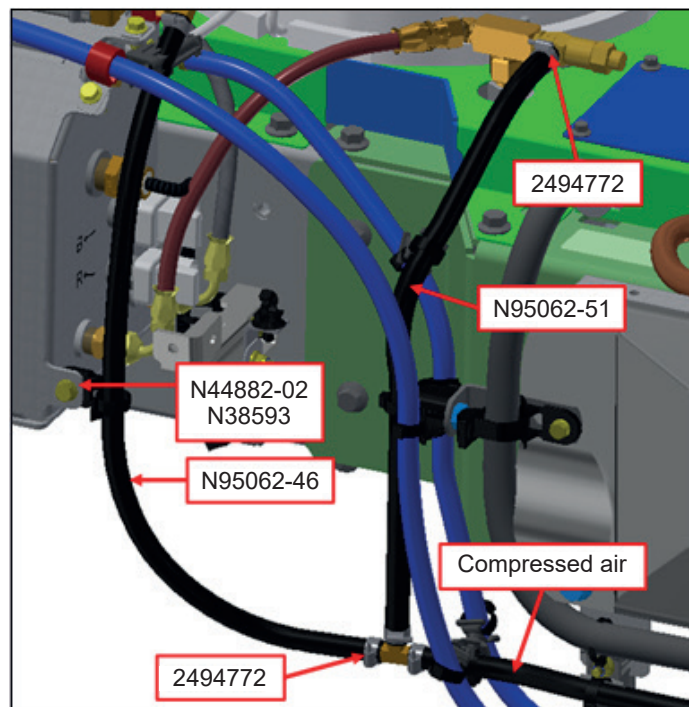

Figure 8 - Installation of Relief Valve Hose
- 1.16. The routing of left side hose going to the T-fitting must be modified, use supplied hose N95062-46 and cut to size accordingly (see figure 8).
- 1.18. Secure all the hose connections with clamps 2494772 (see figure 8).